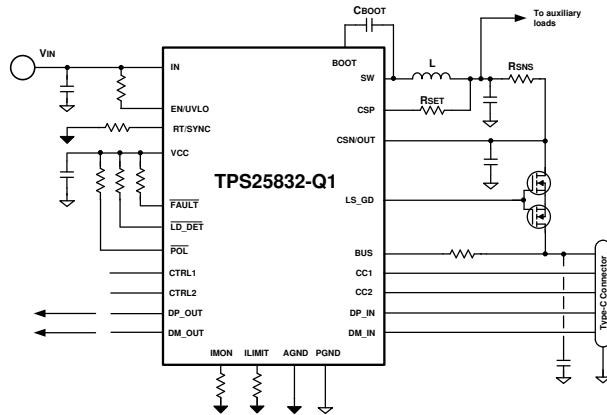
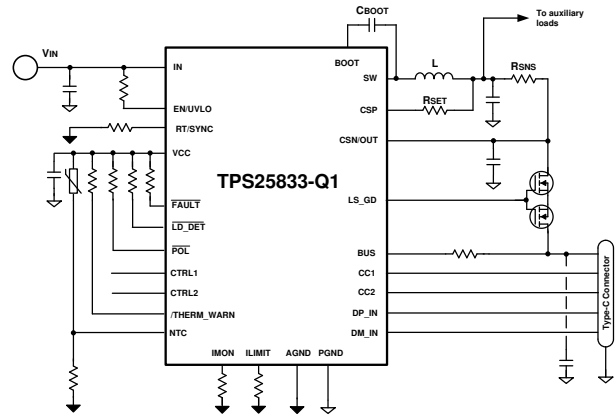

Figure 53. TPS25832-Q1 Current Limit with External MOSFET
Figure 54. TPS25833-Q1 Current Limit with External MOSFET
- With external MOSFET Figure 53, Figure 54:
The TPS2583x-Q1 has integrated NFET gate drivers, and can support current limit with external NFET. Refer to Figure 53.